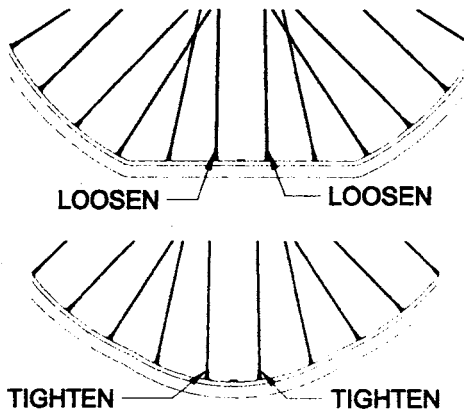

Fig 8 - Radial truing
Step 5 - Begin the radial truing procedure (figure 8). Correct any bulges (visible in the truing stand as the rim gets closer to the calipers) by tightening spokes on both left and right sides